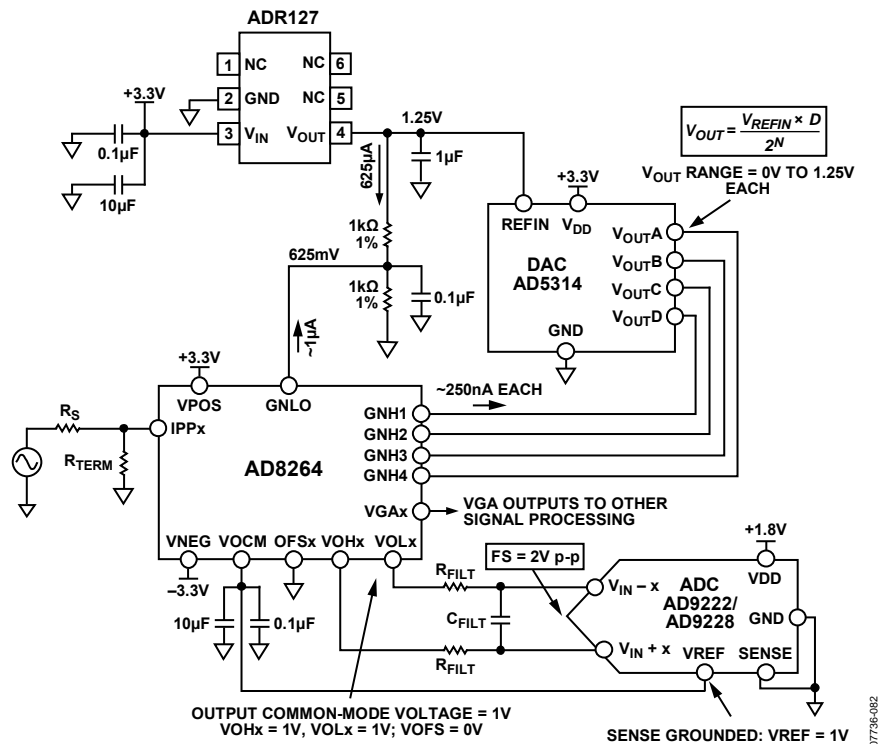
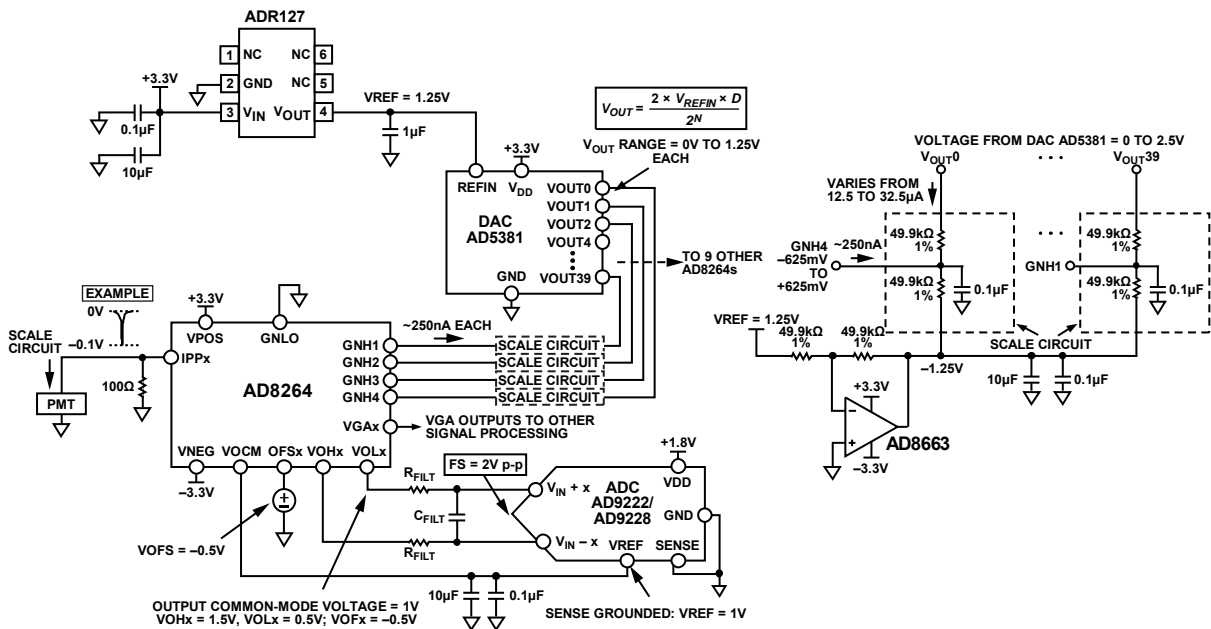

Figure 112. Application Concept of the AD8264 with the AD5314 10-Bit DAC and the AD9222/AD9228 12-Bit ADC
Figure 113. Concept Application of AD8264 with 40-Channel AD5381 12-Bit, 3 V DAC and AD9222/AD9228 12-Bit ADC
The AD8264 is particularly well suited for use in the analog front end of medical PET imaging systems. Figure 112 shows how to use the AD8264 with the AD5314 (a 4-channel, 10-bit DAC) and the AD9222/AD9228 (an octal or quad, 12-bit ADC, respectively). The DAC sets the gain of the AD8264. Note that the full gain span of 24 dB is achieved with this setup because the gain control input range of the AD8264 is very close to 1.25 V. The GNLO pin must offset by $1.25/2 = 625 \text{ mV}$ because the gain control input is bipolar around the voltage applied at GNLO. This is done with two $1 \text{ k}\Omega$, 1% resistors. The approximately $1 \mu\text{A}$ of bias current flowing from the GNLO pin does not contribute a significant error because the basic gain error of the AD8264 is the limiting factor.
Figure 112 also includes the DAC output equation, which indicates that the output can vary between 0 V and $V_{\text{REF}} = 1.25 \text{ V}$.
The single-ended-to-differential amplifier of the AD8264 amplifies the VGA output signal by 6 dB and can provide the required dc bias of the AD9222/AD9228, as shown in Figure 112. The ADC is connected with the default internal reference because the SENSE pin is grounded. With this connection, the AD9222/AD9228 VREF pin is an output that provides 1 V ; this is then connected to the VOCM input of the AD8264, which sets the output common-mode voltage of the VOHx and VOLx pins to 1 V . This voltage is very close to the recommended optimal value of $V_{\text{DD}}/2 = 0.9 \text{ V}$. With this configuration, the ADC inputs are set to a full-scale (FS) of 2 V p-p .
The dc connected concept example in Figure 113 is an application with the 40-channel AD5381, 3 V, 12-bit DAC. The main difference between this example and Figure 112 is that, for the same ADR127 1.25 V reference, the full-scale output of the DAC is from 0 V to $2 \times V_{REFIN} = 2.5$ V. Two options for gain control include the following:
- Use the same circuit as in Figure 112 but use only half the DAC output voltage from 0 V to 1.25 V. This is the simplest solution, requiring the fewest extra components. Note that the overall gain resolution increases by one bit to 11 bits over the 10-bit AD5314.
- Ground GNLO and scale the DAC output so that the GNHx inputs vary from -0.652 V to $+0.625$ V. Figure 113 shows a possible circuit implementation using a divider between the DAC output and a -1.25 V reference.
Figure 113 shows how the AD8264 is connected in a PET application. The PMT generates a negative-going current pulse that results in a voltage pulse at the preamplifier input and a differential output pulse on VOLx and VOHx.
A convenient method of verifying and customizing the signal chains shown in Figure 112 and Figure 113 is by ordering the corresponding evaluation boards available on www.analog.com. The AD8264-EVALZ is a platform through which the user can quickly become familiar with the features and performance capabilities of the AD8264. See the Evaluation Board section for more information.